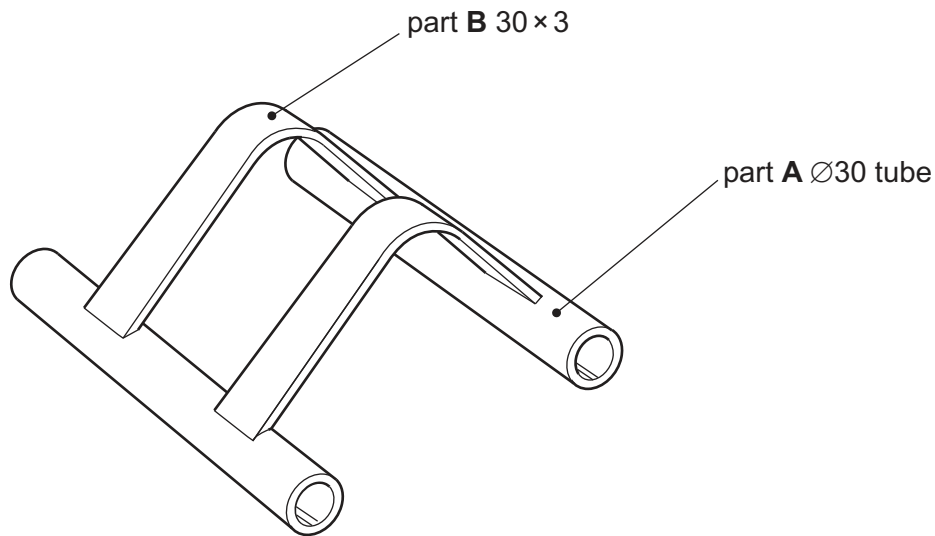

Fig. 3.1
- 3 Fig. 3.1 shows a bicycle stand that is to be made in a school workshop. The bicycle stand will be used outdoors.